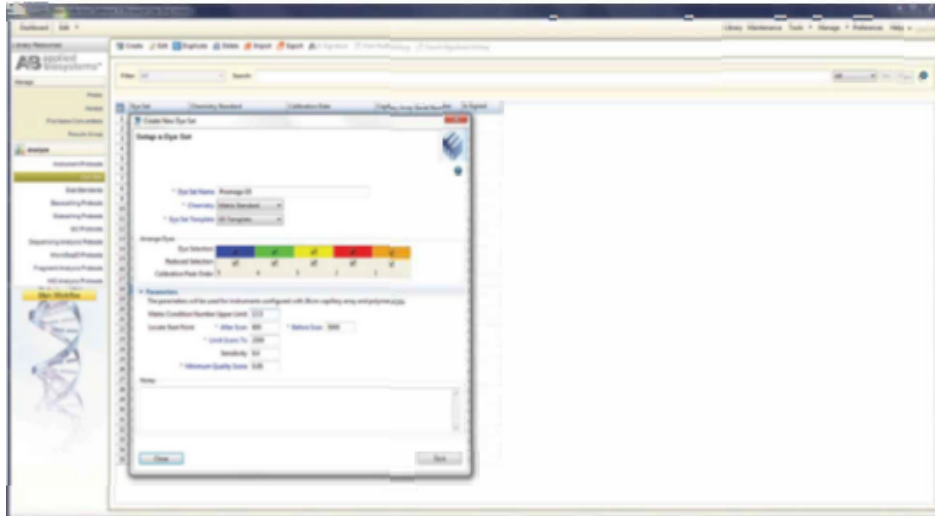

Figure 2
- b. The Create New Dye Set window will appear (Figure 2). Name the Dye Set with a unique name for the 5-dye system, select "Matrix Standard" for the Chemistry and select "G5 Template" for the Dye Set Template. Under Parameters, change the After Scan number to 800 from the default number of 500. Select "Save".